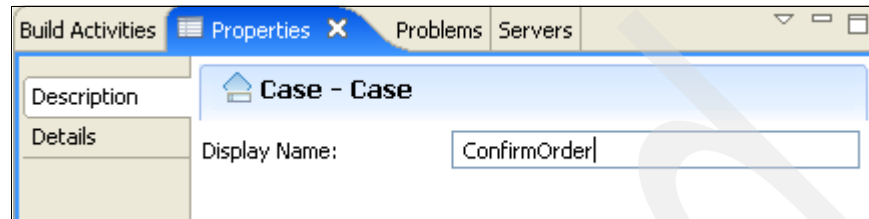

Figure 3-167 Case Display Name
1. Click the Case element. Go to **Properties** → **Description** and set the **Display Name** to ConfirmOrder, as shown in Figure 3-167.